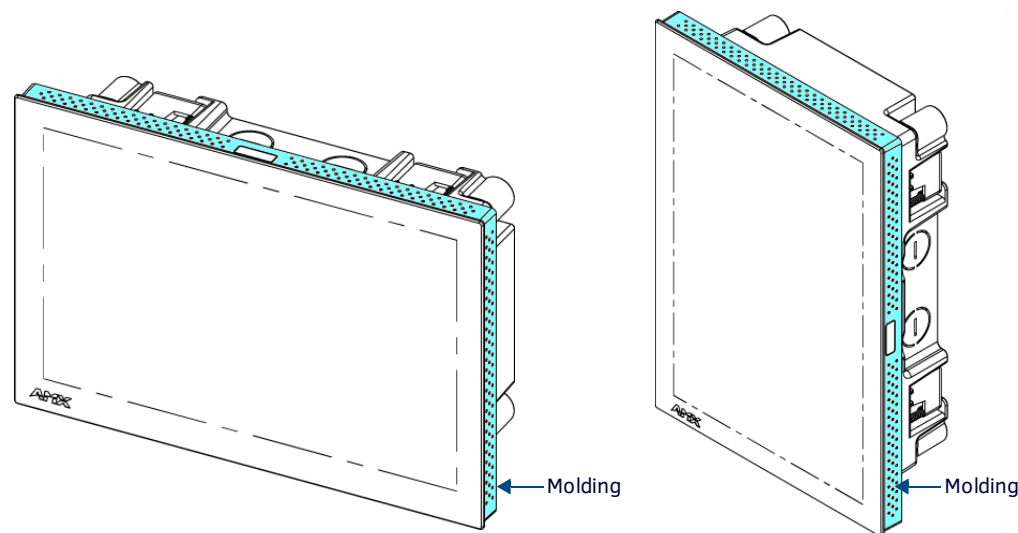

FIG. 47 MXD-1001 Molding (highlighted in blue)
1. The MXD-1001 has three rows of ventilation holes along the molding (FIG. 47):
1. The MXD-701 has three rows of ventilation holes along the molding (FIG. 47):